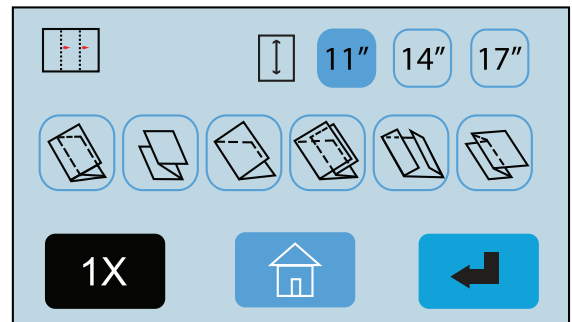

Fig. 32
3. From the Standard Fold Override Screen select the paper size and fold type that you would like to override (Fig. 32). Then press the enter  icon.